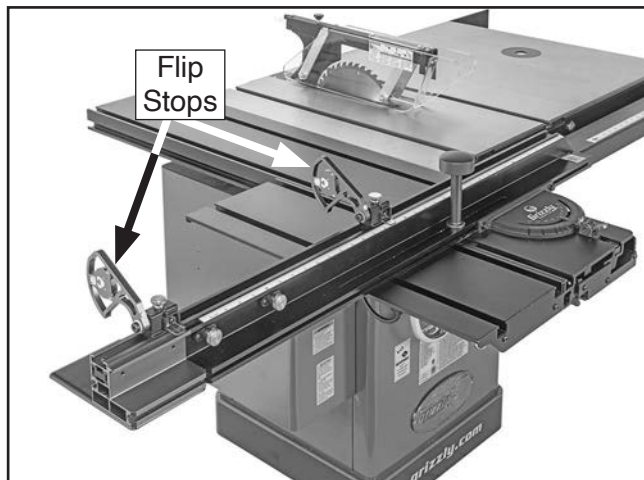

Figure 20. Flip stops installed in fence T-slot.
42. Install (2) flip stops in T-slot at top of fence (see **Figure 20**).